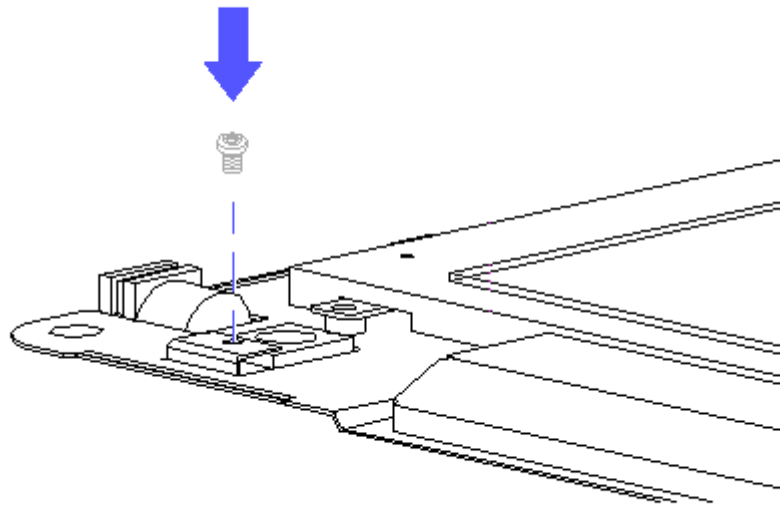

Figure 3-72. Installing the Keyboard Connector Screw
6. Install the keyboard connector screw (Figure 3-72).